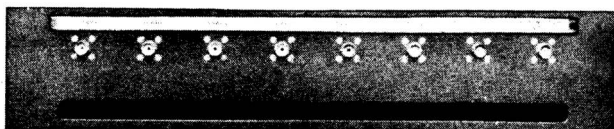

Figure 1-11. Patch Panel Assembly
(9) PATCH PANEL ASSEMBLY.—The Patch Panel Assembly (see figure 1-11) provides a means of connecting R-F Oscillator O-243/FRT-24 to the R-F Assembly. It is located near the center of the left-hand cabinet, directly above R-F Oscillator O-243/FRT-24.